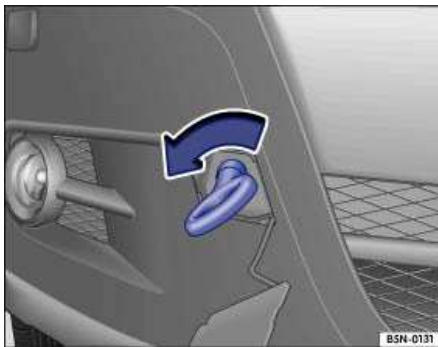

Fig. 46 The front right section of the vehicle: screwing in the towing eye.
- Screw the towing eye as far as it will go into the threaded hole ⇒ Fig. 46 (inset). Use the lug wrench to tighten the towing eye ⇒ .